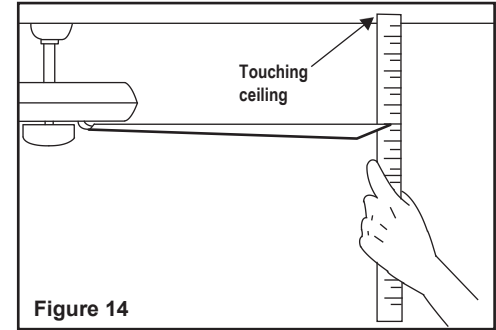

Figure 14
2. Most fan wobbling problems are caused when blade levels are unequal. Check this level by selecting a point on the ceiling above the tip of one of the blades. Measure this distance as shown in Figure 14. Rotate the fan until the next blade is positioned for measurement. Repeat for each blade. The distance deviation should be equal within $1/8$ ".